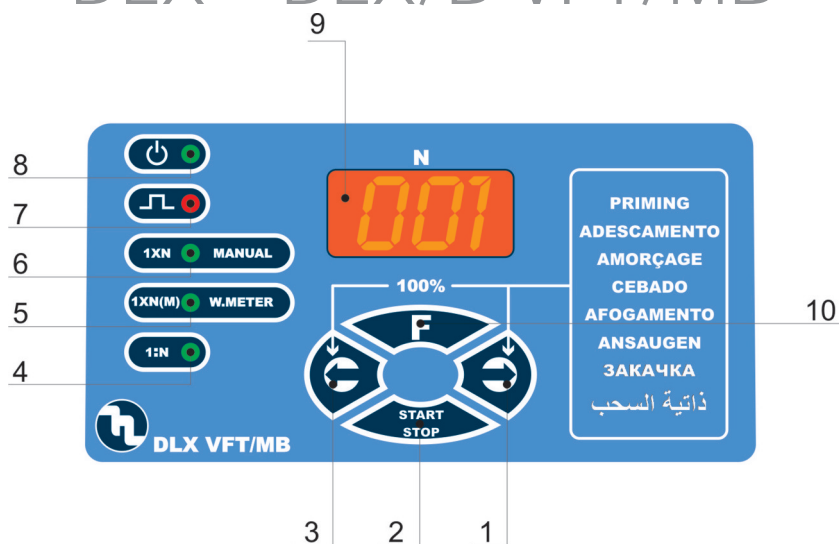
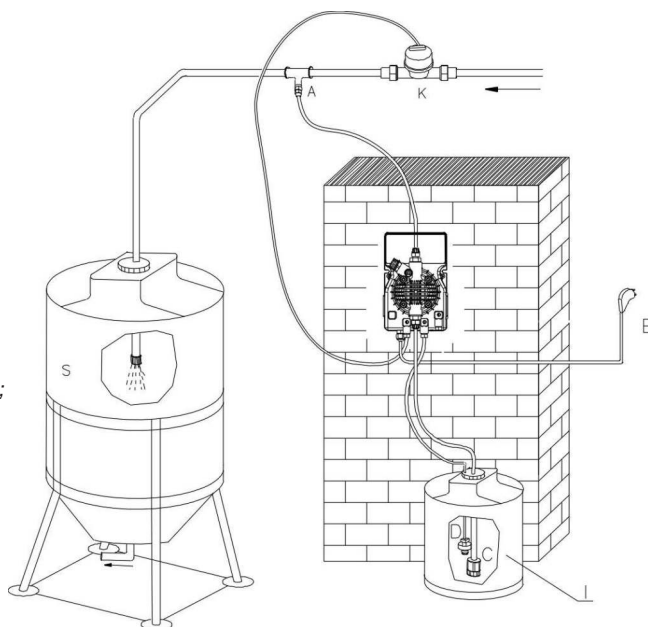

Fig. 15
Fig. 16
7.1 - PUMP CONTROLS (Fig. 15)
- 5 - "green" LED 1XN (M) function/water meter
7.2 - TYPICAL INSTALLATION (Fig. 16)